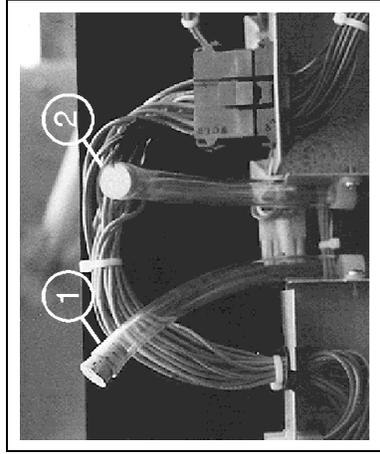

FIGURE 2 (MSSM0242AE)
2. Locate the two 1/2" plastic tubes (FIGURE 2, Items 1 and 2) secured to the electrical control chassis. Clean the surrounding area and remove the cork stoppers from each.